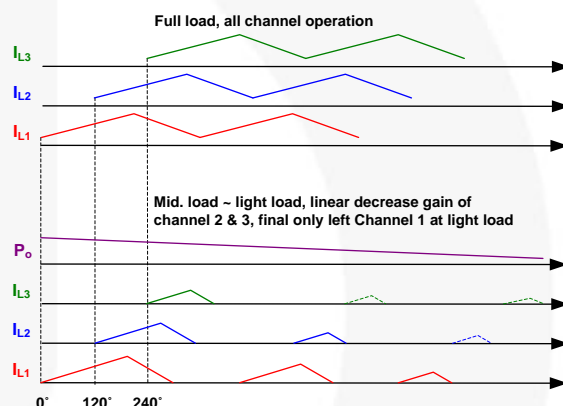

Figure 13. Phase and Gain Change of CM Control
Table 1 explains the phase and gain change of each channel when the PFC operates at various loads. The loading decreases the gain to the slave until it is disabled. The phase of Channel Management (CM) mode doesn't change when channel 3 is disabled. The behavior is shown in Figure 13.